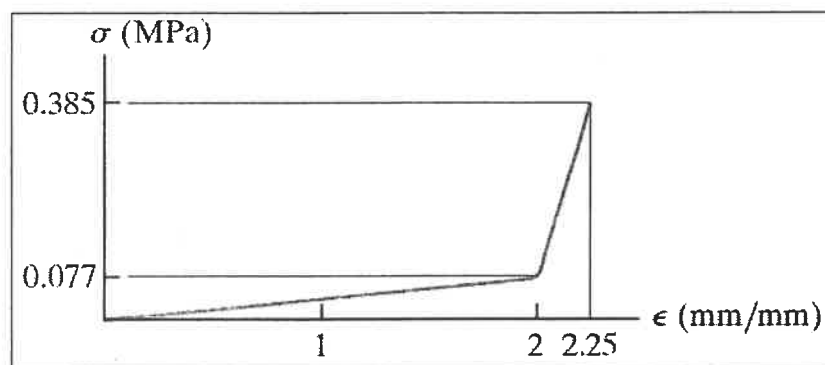

Figure 3
- (b) A diagram of an elastic composite fiberglass boat that is made of polyester and fiberglass is shown in Figure 3.